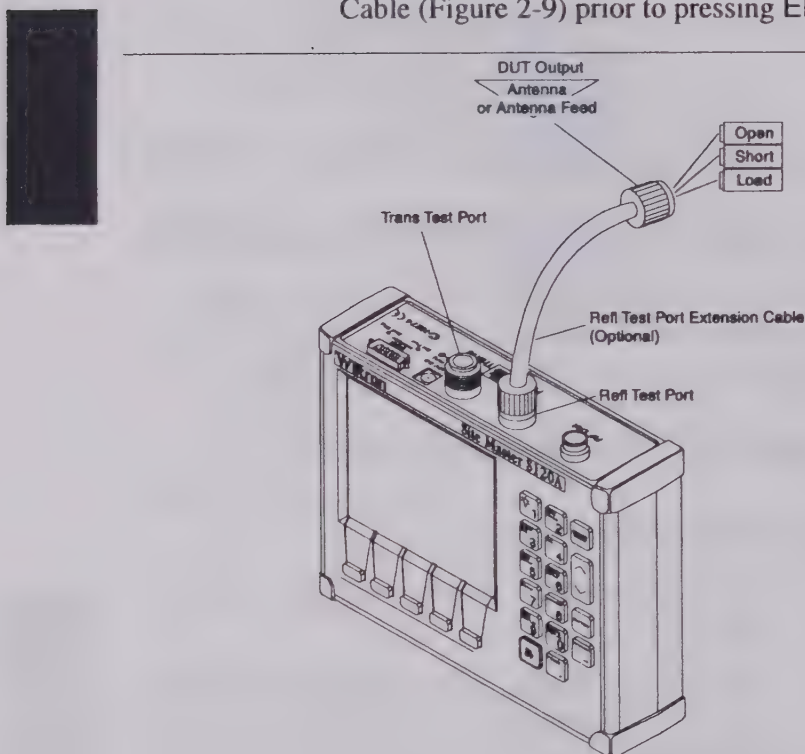

Figure 2-9. One-Port Measurement/Calibration Test Setup
- Step 9.** Perform a measurement calibration, using the START CAL key. Select OSL. Follow the ensuing "Connect OPEN to REFL port, Press ENTER," "Connect SHORT to REFL port, Press ENTER," and "Connect LOAD to REFL port, Press ENTER" instructions that appear in the message area. Connect the respective Open, Short, and Load component to the end of the Refl Test Port Extension Cable (Figure 2-9) prior to pressing ENTER.
"Connect SHORT to REFL port, Press ENTER," and "Connect LOAD to REFL port, Press ENTER" instructions that appear in the message area. Connect the respective Open, Short, and Load component to the end of the Refl Test Port Extension Cable (Figure 2-9, page 2-30) prior to pressing ENTER.